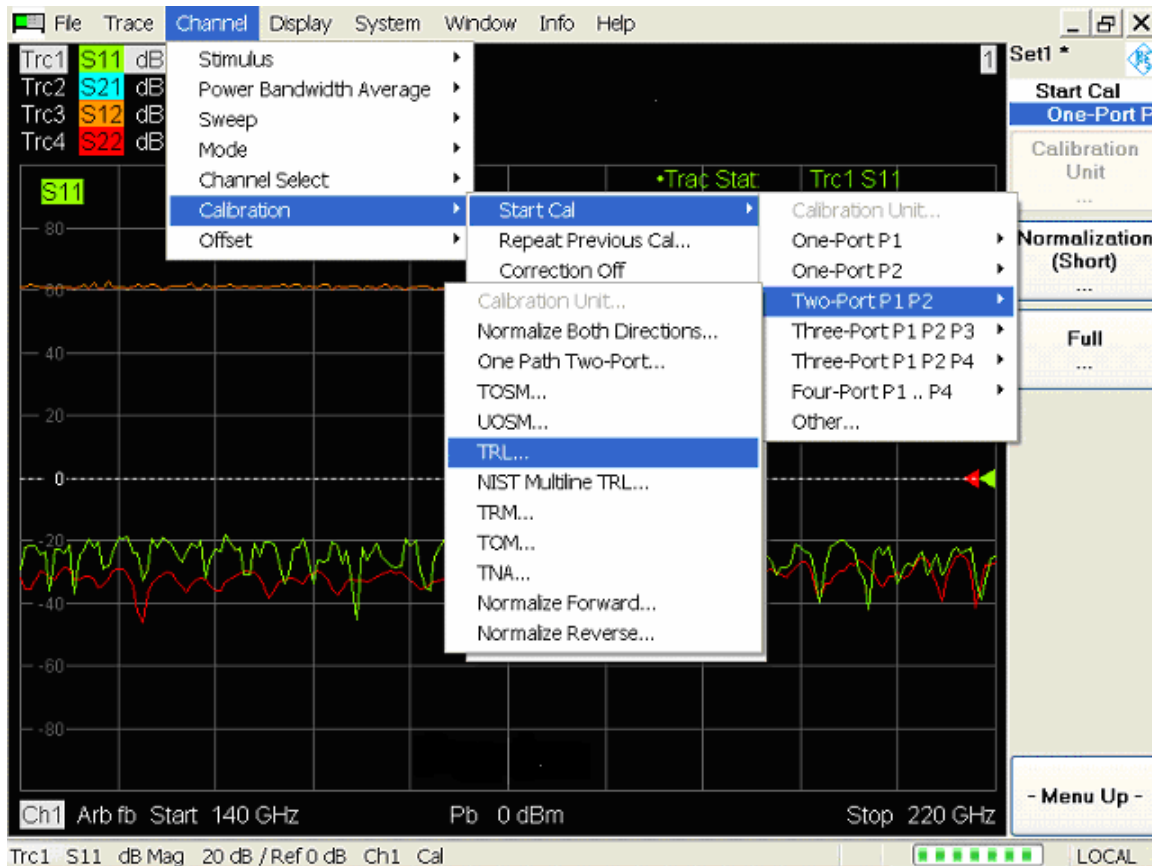

Figure 1 – Calibration Startup Configuration
1. Click “**Channel**” pull down menu with mouse. Highlight or click “**Calibration**”, follow by “**Two-Port P1P2**” and then click “**TRL**” side-menu (Figure 1).